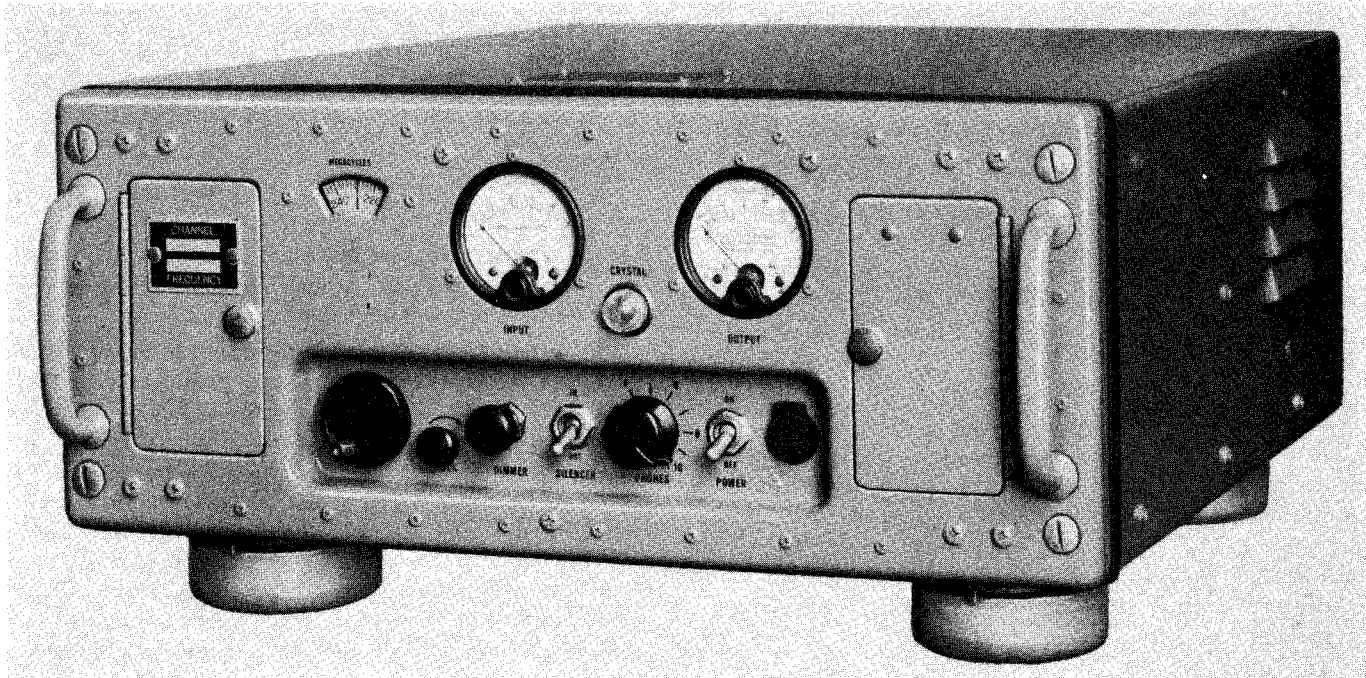

Figure 1-2. Radio Receiver R-482A/URR-35, Front View
All primary operating controls and the meters are mounted on the front panel; see figure 1-2. The crystal, the fuses and those controls which require only periodic change for operational adjustments are in panel compartments accessible through hinged doors. Trimmer adjustment controls are readily accessible when the chassis assembly is removed from the cabinet. Trimmer adjustments in the r-f amplifier and oscillator-multiplier sections are accessible through holes located in the casting walls and in the top cover shields of the preselector unit. Trimmer adjustments for circuits in the i-f section are located at the tops (accessible through holes in the shields) and bottoms of the i-f transformer assemblies. Cable connections to and from the receiver are made to connectors on the underside of the low-pass filter attached to the rear of the cabinet. A phone jack is mounted on the front panel.
*a.* CABINET.—The receiver cabinet is fabricated from an aluminum alloy and finished in a gray enamel; see figures 1-2 and 1-3. Guide rails, located on the bottom of the cabinet, permit easy withdrawal of the panel-and-chassis assembly. When installed in a standard relay rack, the angle brackets used for mounting it are attached to the sides of the cabinet and the four shockmounts are removed. When the cabinet is arranged for table mounting, these brackets are detached and four shockmounts are bolted to the bottom of the cabinet in their stead. Ventilation is provided, through dust filters and louvers on either side of the cabinet, by means of an internal blower.